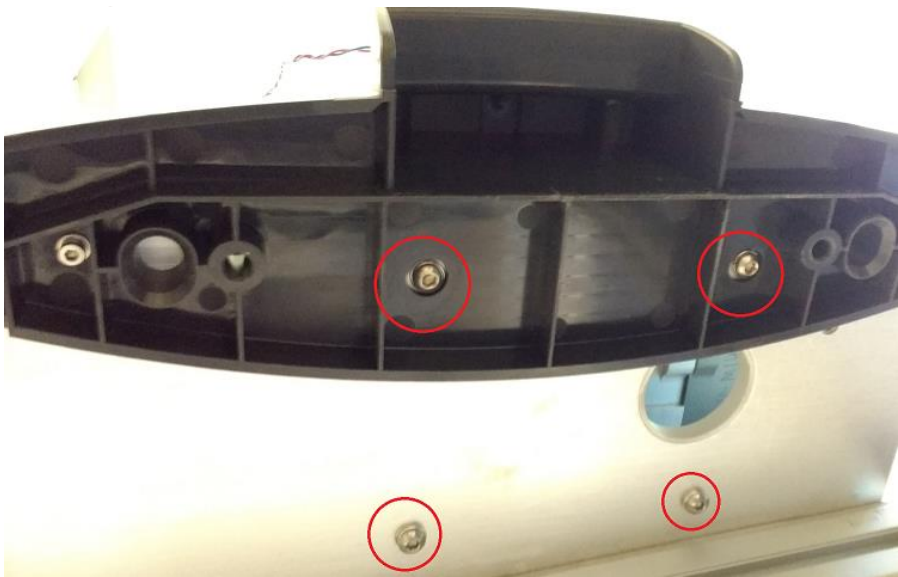

Figure 3: Scroll Pump Mounting Connections
5. Tilt the unit and unscrew the four connections underneath the leak detector that hold the scroll pump (Figure 3: Scroll Pump Mounting Connections). Place the unit flat again and remove the whole pump assembly.
12. Mount the new scroll pump using the four connections seen in “Figure 3: Scroll Pump Mounting Connections” on page 19.